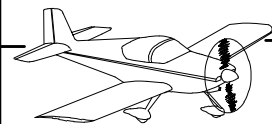

**FIGURE 1: W-1013-L INBOARD AILERON BRACKET ASSEMBLY**
Step 4: Cleco the Left and Right Aileron Hinge Bracket assemblies back together and rivet them as called out in Figure 1. Set the rivets in a random pattern to inhibit warping.